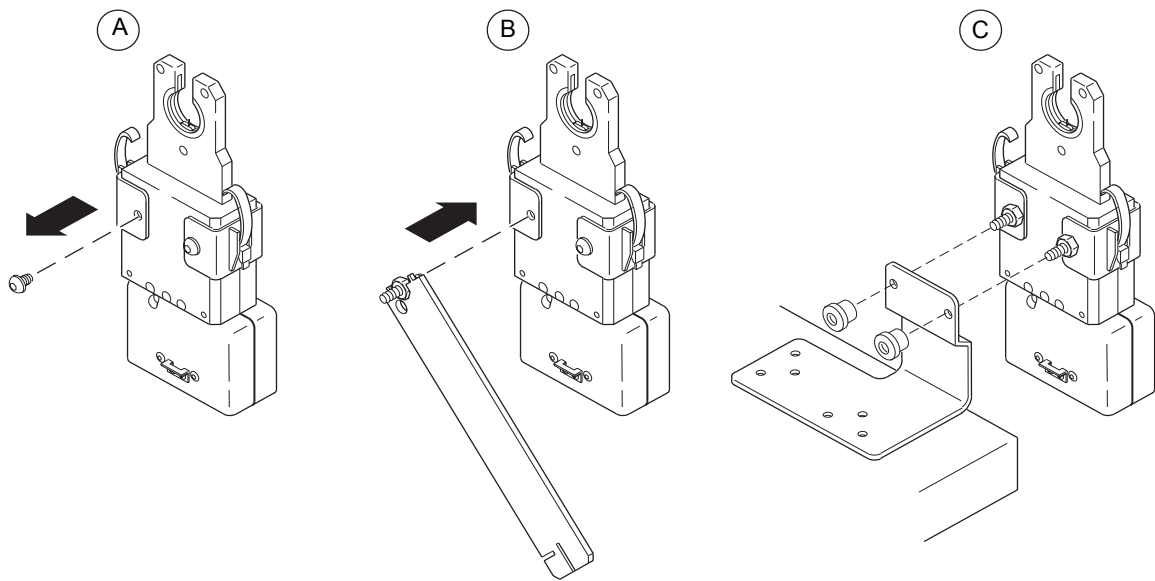

Figure 22 Using the Series 8 Bench Mount Bracket
1. Remove one of the button head screws holding the latch bracket to the weld head. See Figure 22(A). Insert one of the supplied adapter screws.
2. Secure the adapter screw with a 1/4 in. wrench or the micro fixture tool. See Figure 22(B).
5. Position the weld head so that the exposed ends of the adapter screws slide through the hole in the bracket. See Figure 22(C).